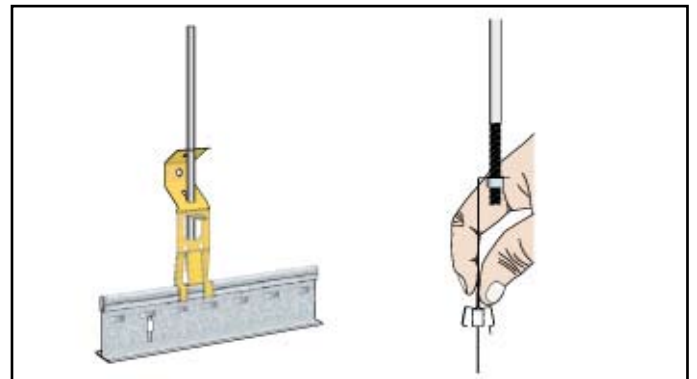

FIGURE 4: Installing the #700 Suspension Clip
6. Ensure the pre-punched slots on the Main Tee line up, and fit the Main Tee to the clips, as per Figure 4. The Main Tees should now be spaced 1200mm apart and suspended 1200mm between hangers. Stagger joints between adjacent Main Tees.